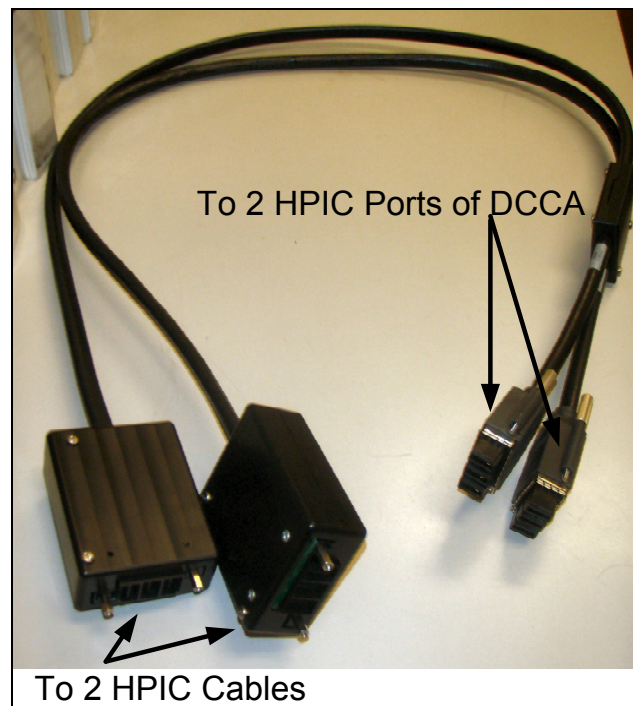
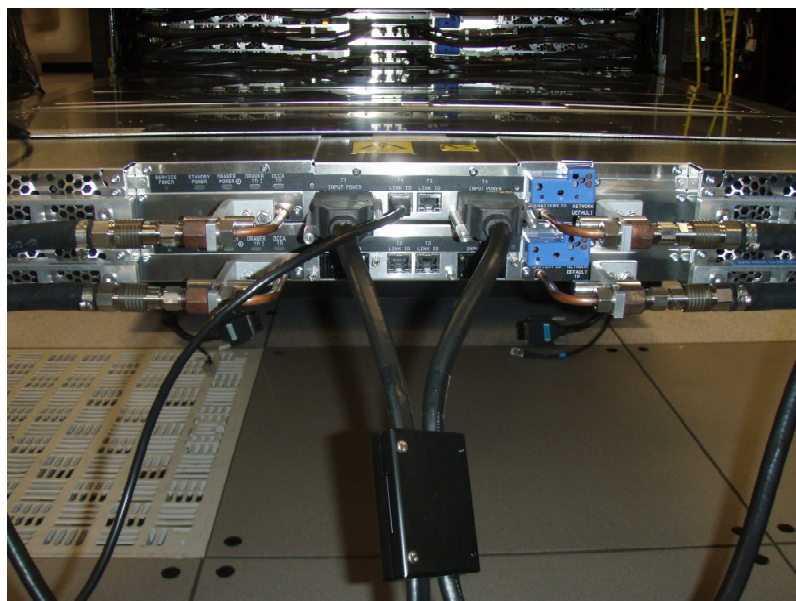

Figure 24 HPIC Test Cable
Figure 25 HPIC Test Cable & Ethernet Test Cable connected to Top DCCA
STEP 35 Connect the 'HPIC Test Cable' (PN 45D7998) to the 2 HPIC connectors of the top DCCA and to the HPIC cables that were plugged into the top DCCA of the CEC drawer. Connect the 'E-Net Test Cable, PN 45D8000, to the left ethernet port of the top DCCA of the CEC drawer whose DIMM is being serviced. (Note, both HPICs must be connected to the Test Cable for the CEC drawer to power on.) See **Figure 24**, **Figure 25**, **Figure 26** and **Figure 27**.